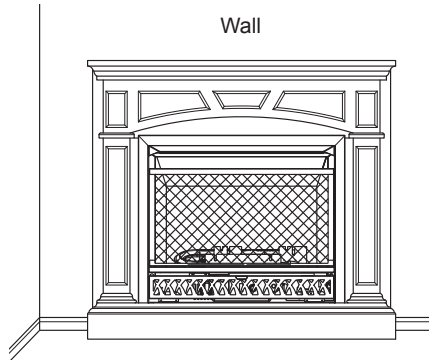

Figure 34
7. Position the fireplace to the desired location as shown in Figure 34.